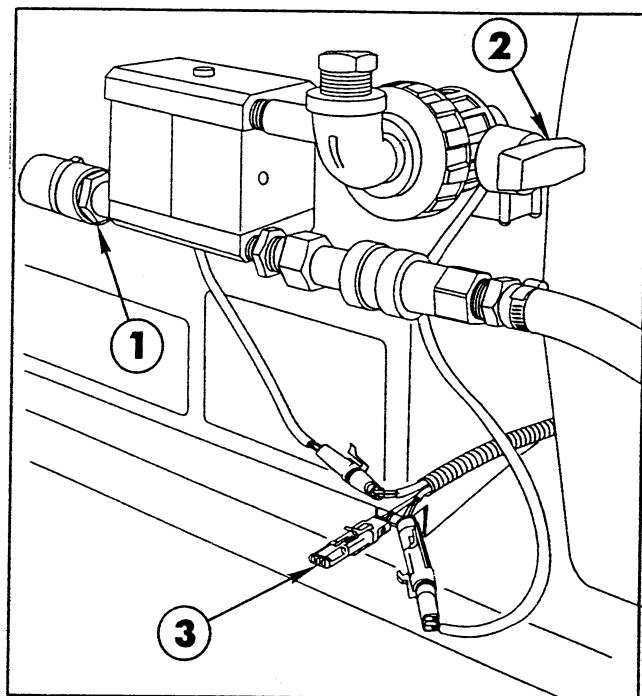

FIG. 17
10. Connect the two cables from the Monitor Control Cable to the connectors from the Vacuum Switch and the Flow Regulator. See FIG. 17.